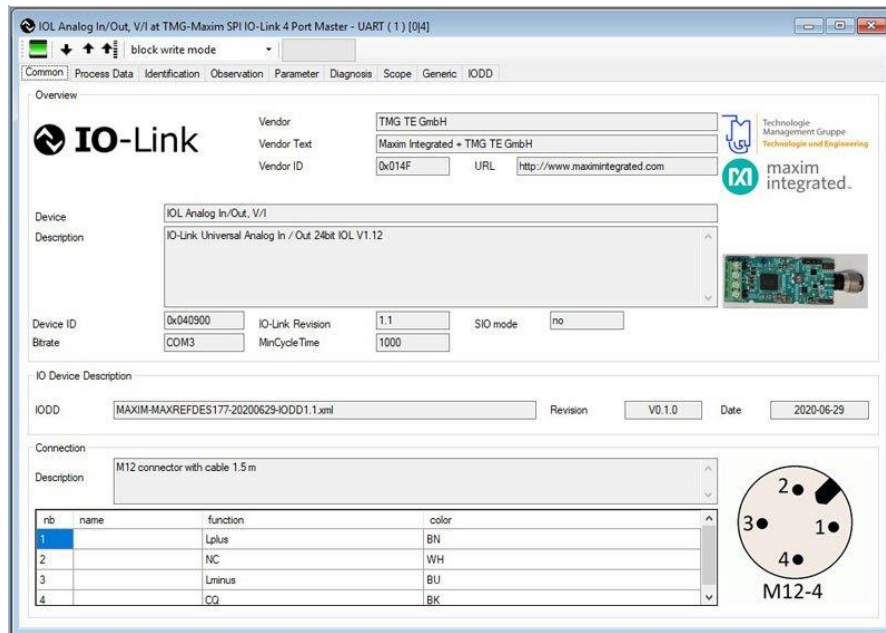

Figure 5. MAXREFDES177# IODD file.
4. Import the IODD file for the MAXREFDES177#. This includes a picture of the PCB (**Figure 5**).